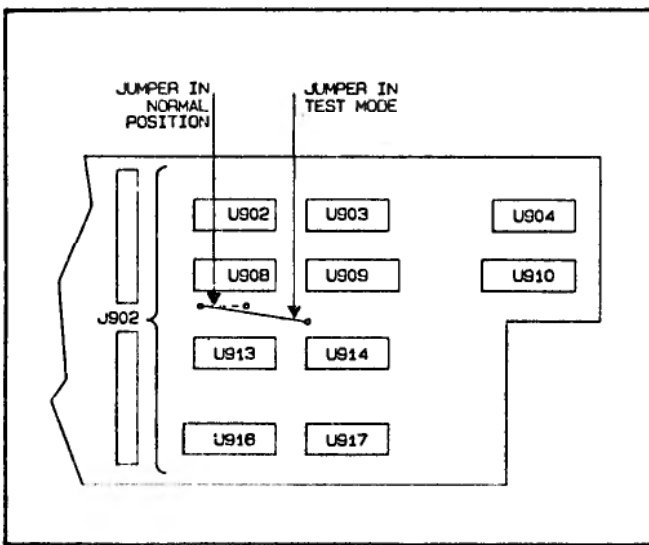

Figure 8-15. 3466A Self-Test Connection
- b. Refer to Figure 8-15 and connect the test jumper to the test position, as shown in the figure. If the 3466A is an older instrument that does not have the test jumper, do the following: